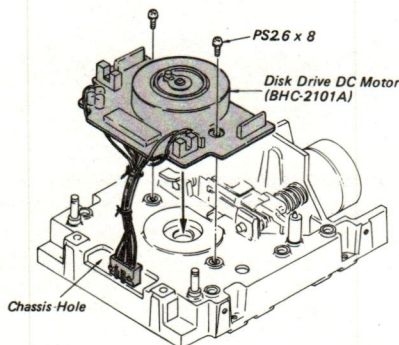

Fig. 4-11 Disk Drive DC Motor (BHC-2101A) Replacement
- i. Remove the two screws (PS2.6 x 8) which fasten the disk motor, and then remove the disk motor. (Refer to Fig. 4-11)
- a. Pass the DC Disk motor harness through the opening in front of the chassis ass'y, and then fasten the DC Disk motor with the two screws (PS2.6 x 8). (Refer to Fig. 4-11)